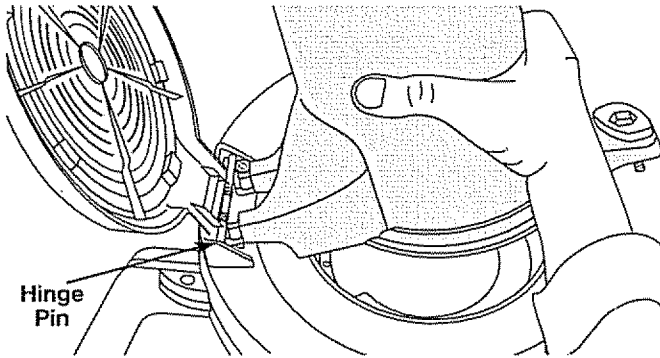

Fig. 4
3. Install the upper vacuum tube by hooking under it the hinge pin of the vacuum door and positioning the tube to where the knob threads align with the tapped hole (Figs 4 & 5).
2. Loosen the knob completely on the vacuum tube, swing back slightly and unhook from the bottom of the vacuum door to remove (Figs 4 & 5).